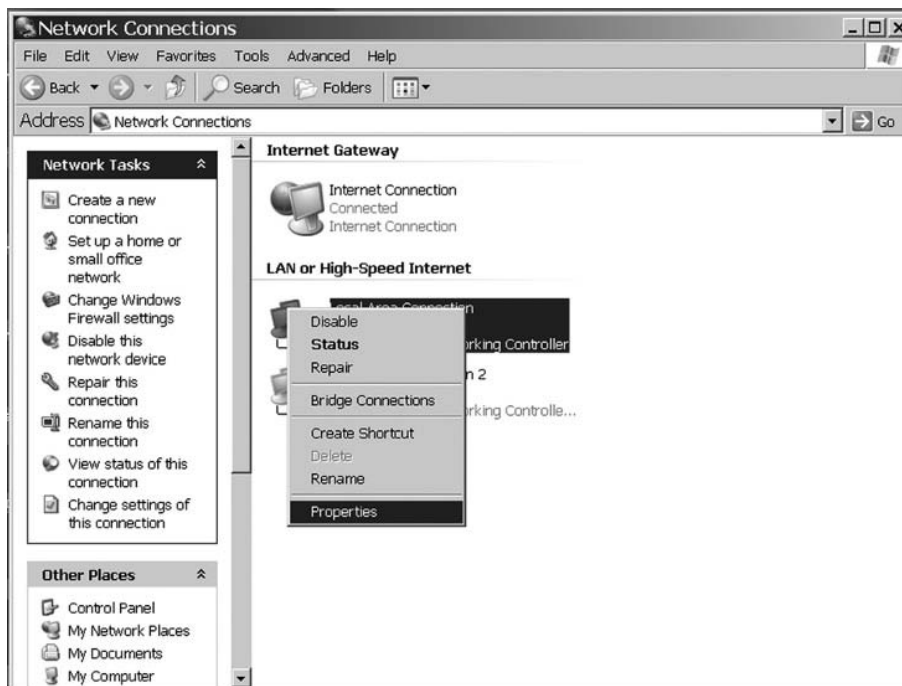
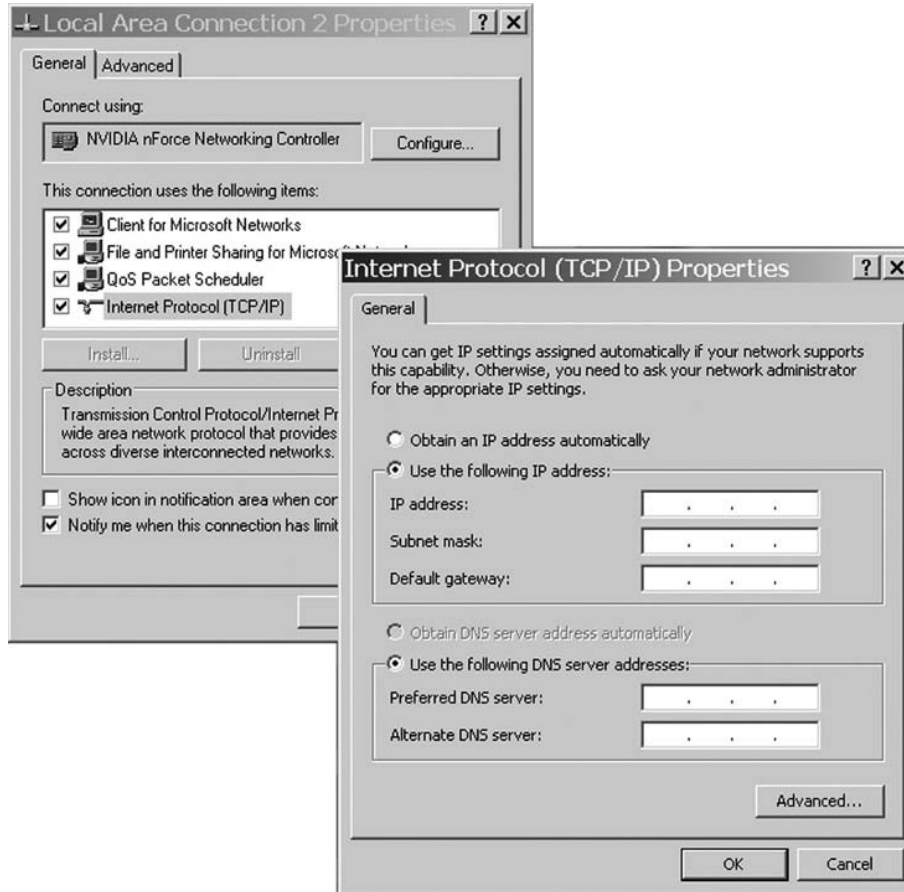

FIGURE 3-21 Right-click on Local Area Connection.
FIGURE 3-22 Properties for TCP/IP.
Right-click on the local area network icon (see Figure 3-21) and choose **PROPERTIES**. Once the **PROPERTIES** dialog box appears (see Figure 3-22), highlight **INTERNET PROTOCOL (TCP/IP)** and then click **PROPERTIES**. Another dialog box appears providing two primary choices: (1) Obtain an IP Address Automatically or (2) Use the Following IP Address. If using a company laptop, it may be configured for DHCP, which is the first choice of obtaining the IP address automatically. If not, then an administrator may have provided a static IP address.